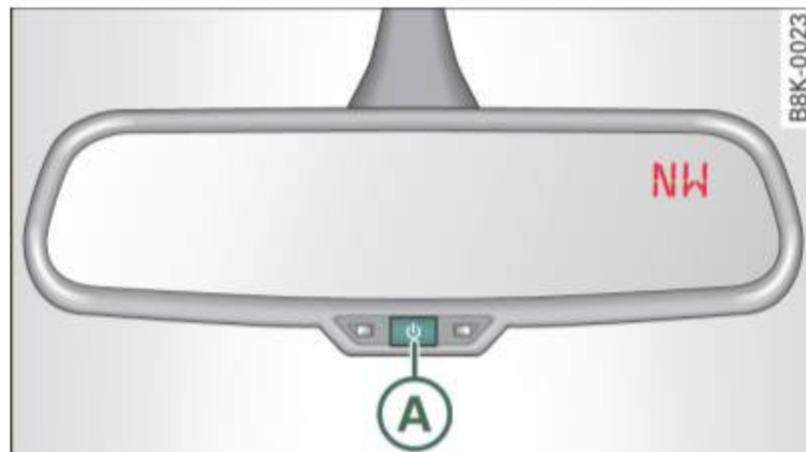

Fig. 67 Inside rear view mirror: digital compass activated
- Hold the **(A)** ⇒ fig. 67 button down until the number of the set magnetic deflection zone appears on the interior rear view mirror.